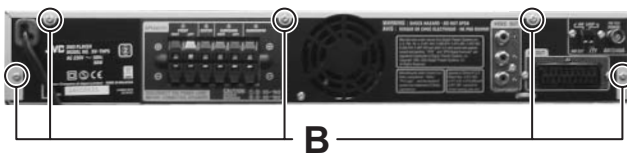

Fig.2
- (2) Remove the five screws **B** attaching the top cover of rear side. (See Fig.2)